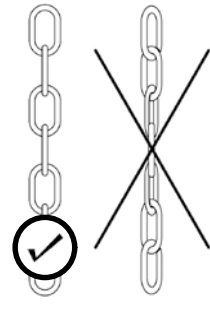

Figure 8
- the chain for emergency control should never be twisted (*fig. 8*), otherwise, failures in the operation of the emergency manual control unit may occur.